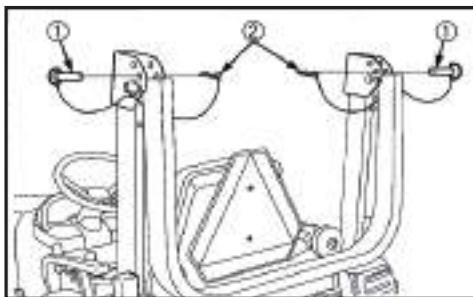

Figure 1A.
- Hold the ROPS tightly with both hands and fold the ROPS slowly and carefully. (Figure 1A)
- Make sure that both set bolts are properly installed as soon as the ROPS is in the upright position and secured with the Linch Pins (Figure 1A.)